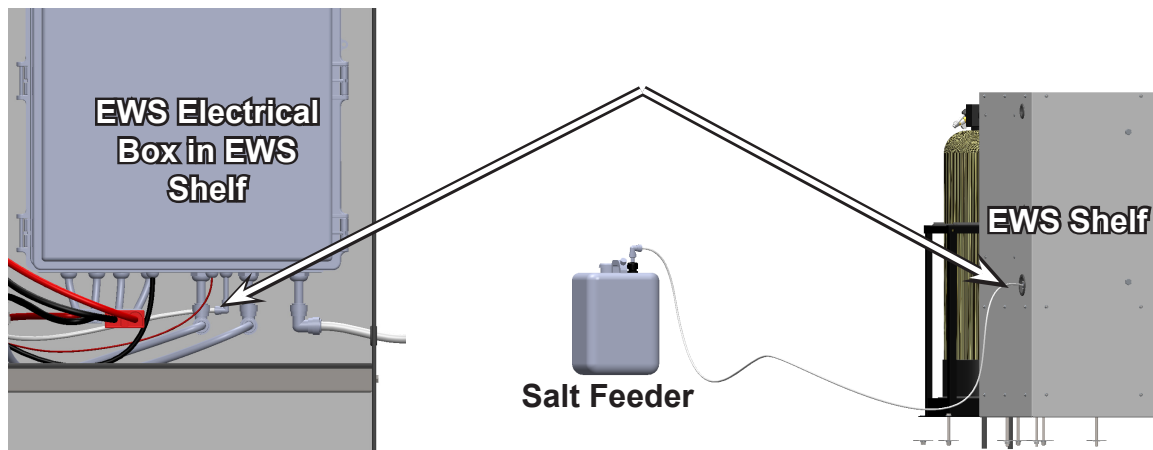

Figure 91. Route Tube from Salt Feeder to Connector on Bottom of EWS Electrical Box
13. Refer to Figure 89 - Figure 91 and measure and cut a piece of clear 1/4" tubing which will connect the Salt Feeder to the EWS Electrical Box (Hose 10 on Figure 71).
15. Route the other end of the tube behind the HydraCradle Tank through the rear of the EWS Shelf and to the appropriate connector on the bottom of the EWS Electrical Box (see Figure 91).